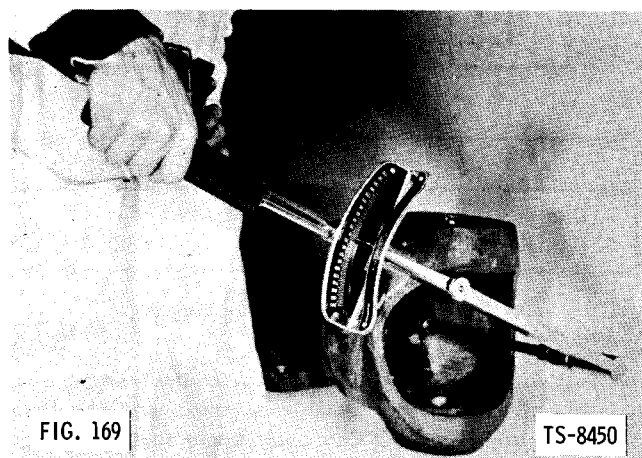

FIG. 169
10. Secure axle shaft bearing retainer to axle housing with six bearing retainer bolts and tighten to specified torque (Fig. 169).